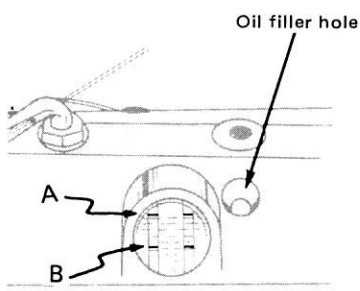

Fig. 1
1. To fill oil reservoir on top of machine until oil level reaches to upper reference line A. Always keep oil level is above lower reference line B. (Fig.1)